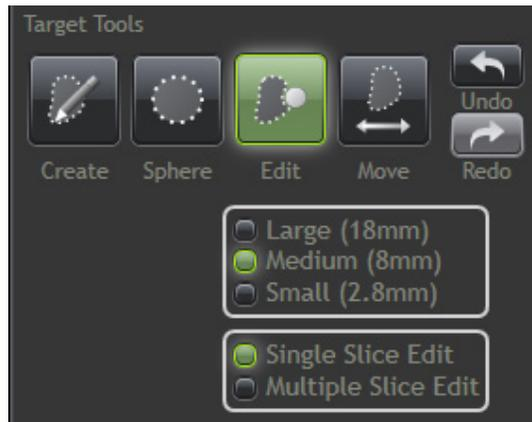

Figure 3-16: The Edit Tool.
If you want to refine the target, click the **Edit** tool in the Target Tools panel (Figure 3-16) and then move the mouse pointer to the target you just defined.
9. Choose a Large, Medium, or Small diameter for refining the target. The Medium option is selected by default (Figure 3-16).
11. To remove portions of the target, place the mouse pointer just outside the target's area; a red circle appears. Click and hold the mouse, using the pointer to guide the circle. Slowly drag the red circle along the target's border (Figure 3-16).